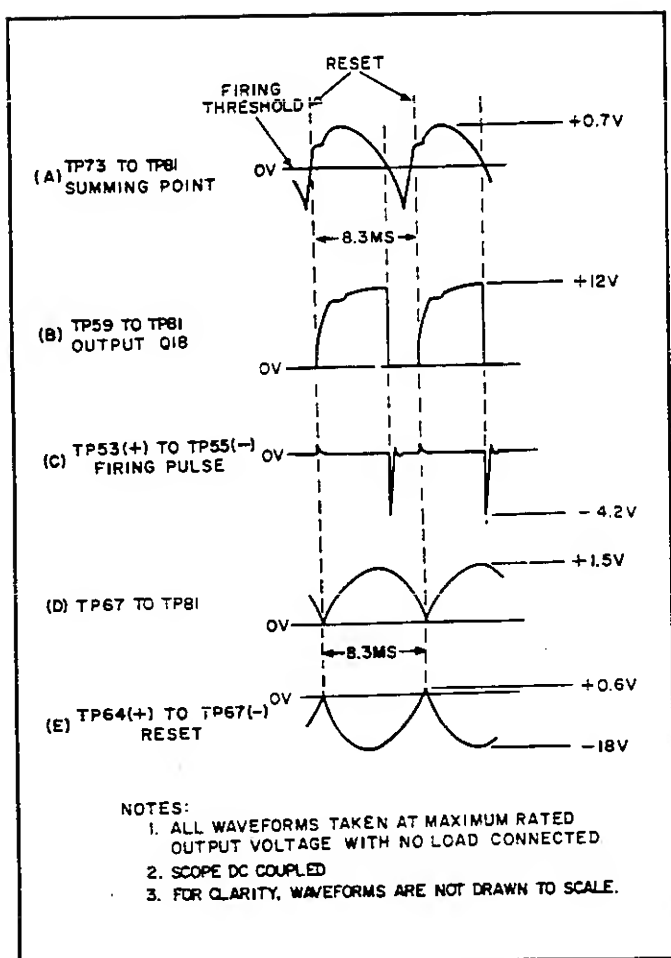

Figure 4-4. Preregulator Control Circuit Waveforms
4-23 The summation of these input signals results in a voltage waveform at TP73 similar to that shown in waveform (A) of Figure 4-4. When the linear ramp portion of the waveform reaches a certain negative threshold, diodes CR43 and CR44 become forward biased. These diodes couple a negative voltage to the base of transistor Q19. Transistors Q19 and Q18 form a bistable circuit similar to a Schmitt trigger. Prior to firing time, Q19 is conducting due to the positive bias supplied to its base through R73, and transistor Q18 is cut off because its base is driven negative by the collector of Q19.